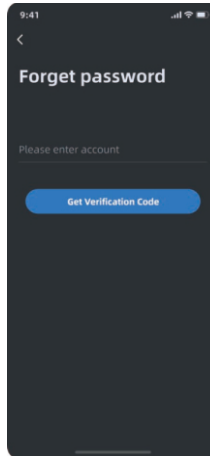

Figure 1
1) Figure 1: If you forget your password, you can reset it through **"Forgot Password"**. Click **"Forgot Password"** on the login page, enter your registered account and click **"Get Verification Code"** to enter the verification code page.